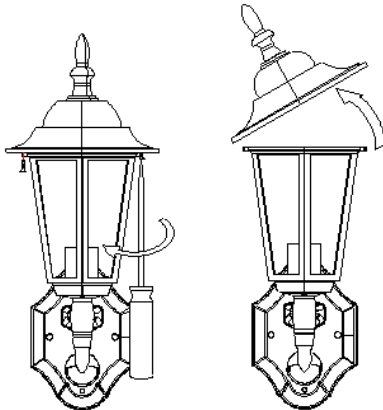

FIGURE 5
- (1) Do not touch the bulb while it is in use or still hot. Allow it to cool off (about 5 minutes) before touching it.
- (2) Do not use the bulb rated higher than 100 watts.
- (3) Switch off the power source. Unscrew retaining screw from the top cover (FIGURE 5).